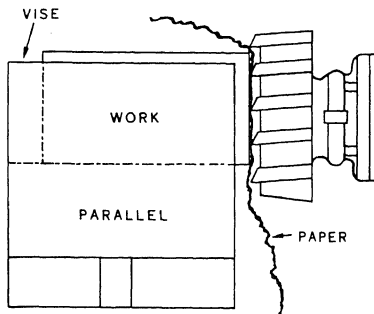

Figure 11-59.—Picking up the work surface.
9. Place a strip of paper between the cutter and the work as shown in figure 11-59 to help pick up the surface. When the cutter picks up the paper there is approximately .003-inch clearance between the cutter and the material being cut.